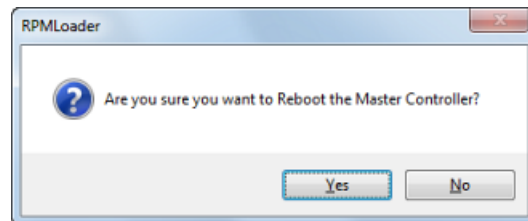

FIG. 28 Reboot Master Controller - Verify
2. RPMLoader will prompt you to verify this action (FIG. 28):